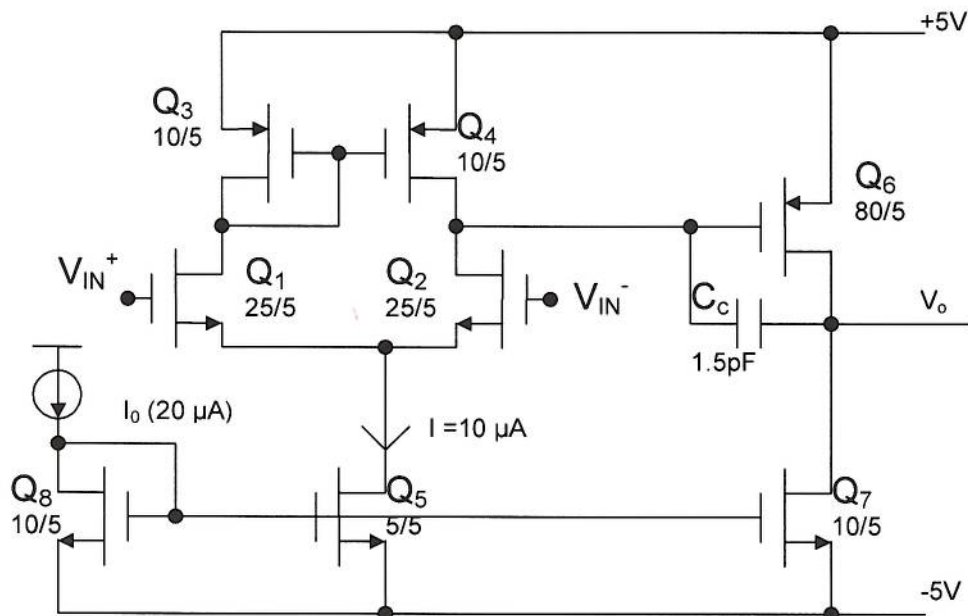

Figure 2
- (b) Estimate the low-frequency differential voltage gain, slew rate and gain-bandwidth product of the two-stage CMOS op-amp shown in Figure 2. Aspect ratios of all devices are shown on the circuit. Assume all bulk effects are negligible. Device model parameters are given below.